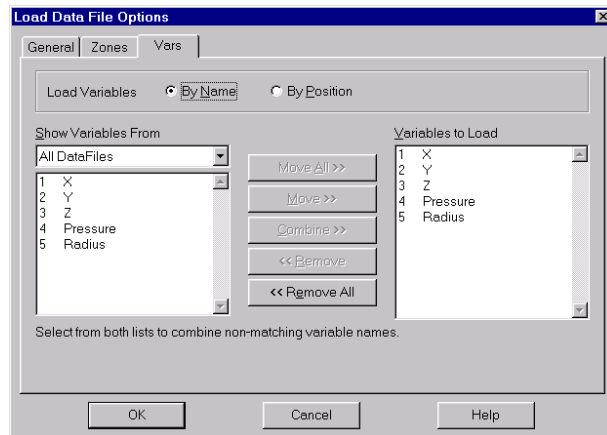
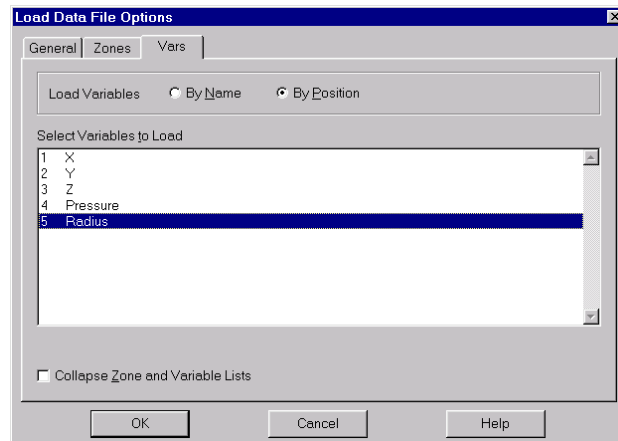

Figure 6-4. The Variables page of the Load Data File Options dialog (Load Variables by Name option).
Figure 6-5. The Variables page of the Load Data File Options dialog (Load Variables by Position option).
6.1.1.4. Variable Options when Loading Data Files. On the Variables page, you have the option of loading your variables By Name or By Position (as shown in Figure 6-4 and Figure 6-5). Select to load your variables by name by selecting the By Name option and by position by selecting the By Position option. The default is to load variables by position. If you are loading variables by position, then none of the options you see when By Name is selected have any effect, and vice-versa.
6.1.1.5. Loading Variables by Name. The Variables page when loading variables by name is shown in Figure 6-5. You have the option of selecting specific variable names to load from the data files.